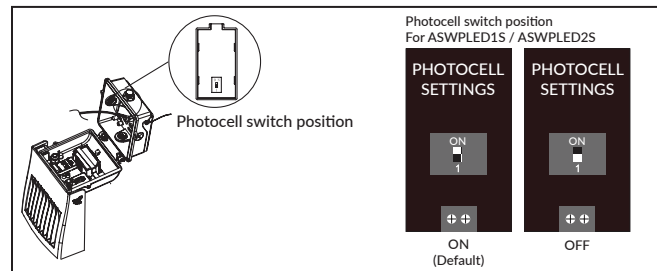

Figure 5.
7. Photocell ON/OFF switch selectable by using the sliding switch according to your desire. (Figure 5)